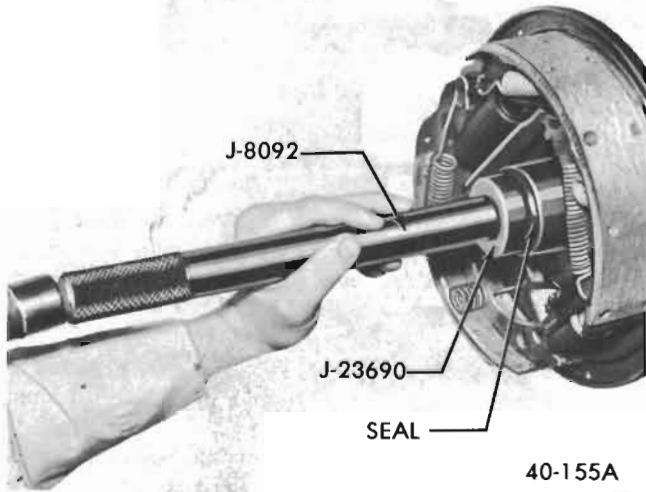

Figure 40-118 Axle Shaft Bearing and Seal Installer
2. Using the axle shaft bearing and seal Installer J-23690, install the bearing and then the seal. See Figure 40-118.